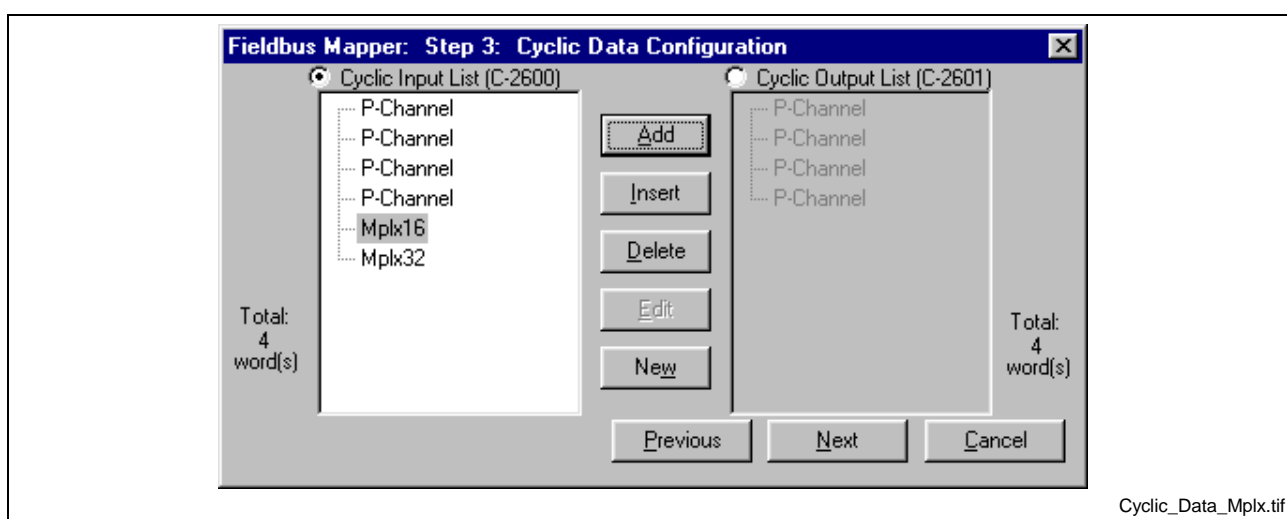

Fig. 6-13: Cyclic Data Configuration, Multiplex Containers
4. Click OK to add the Multiplex Container to the List. The screen in *Fig. 6-13* below is an example where a 16-bit Multiplex Container and a 32-Bit Multiplex Container have been added.